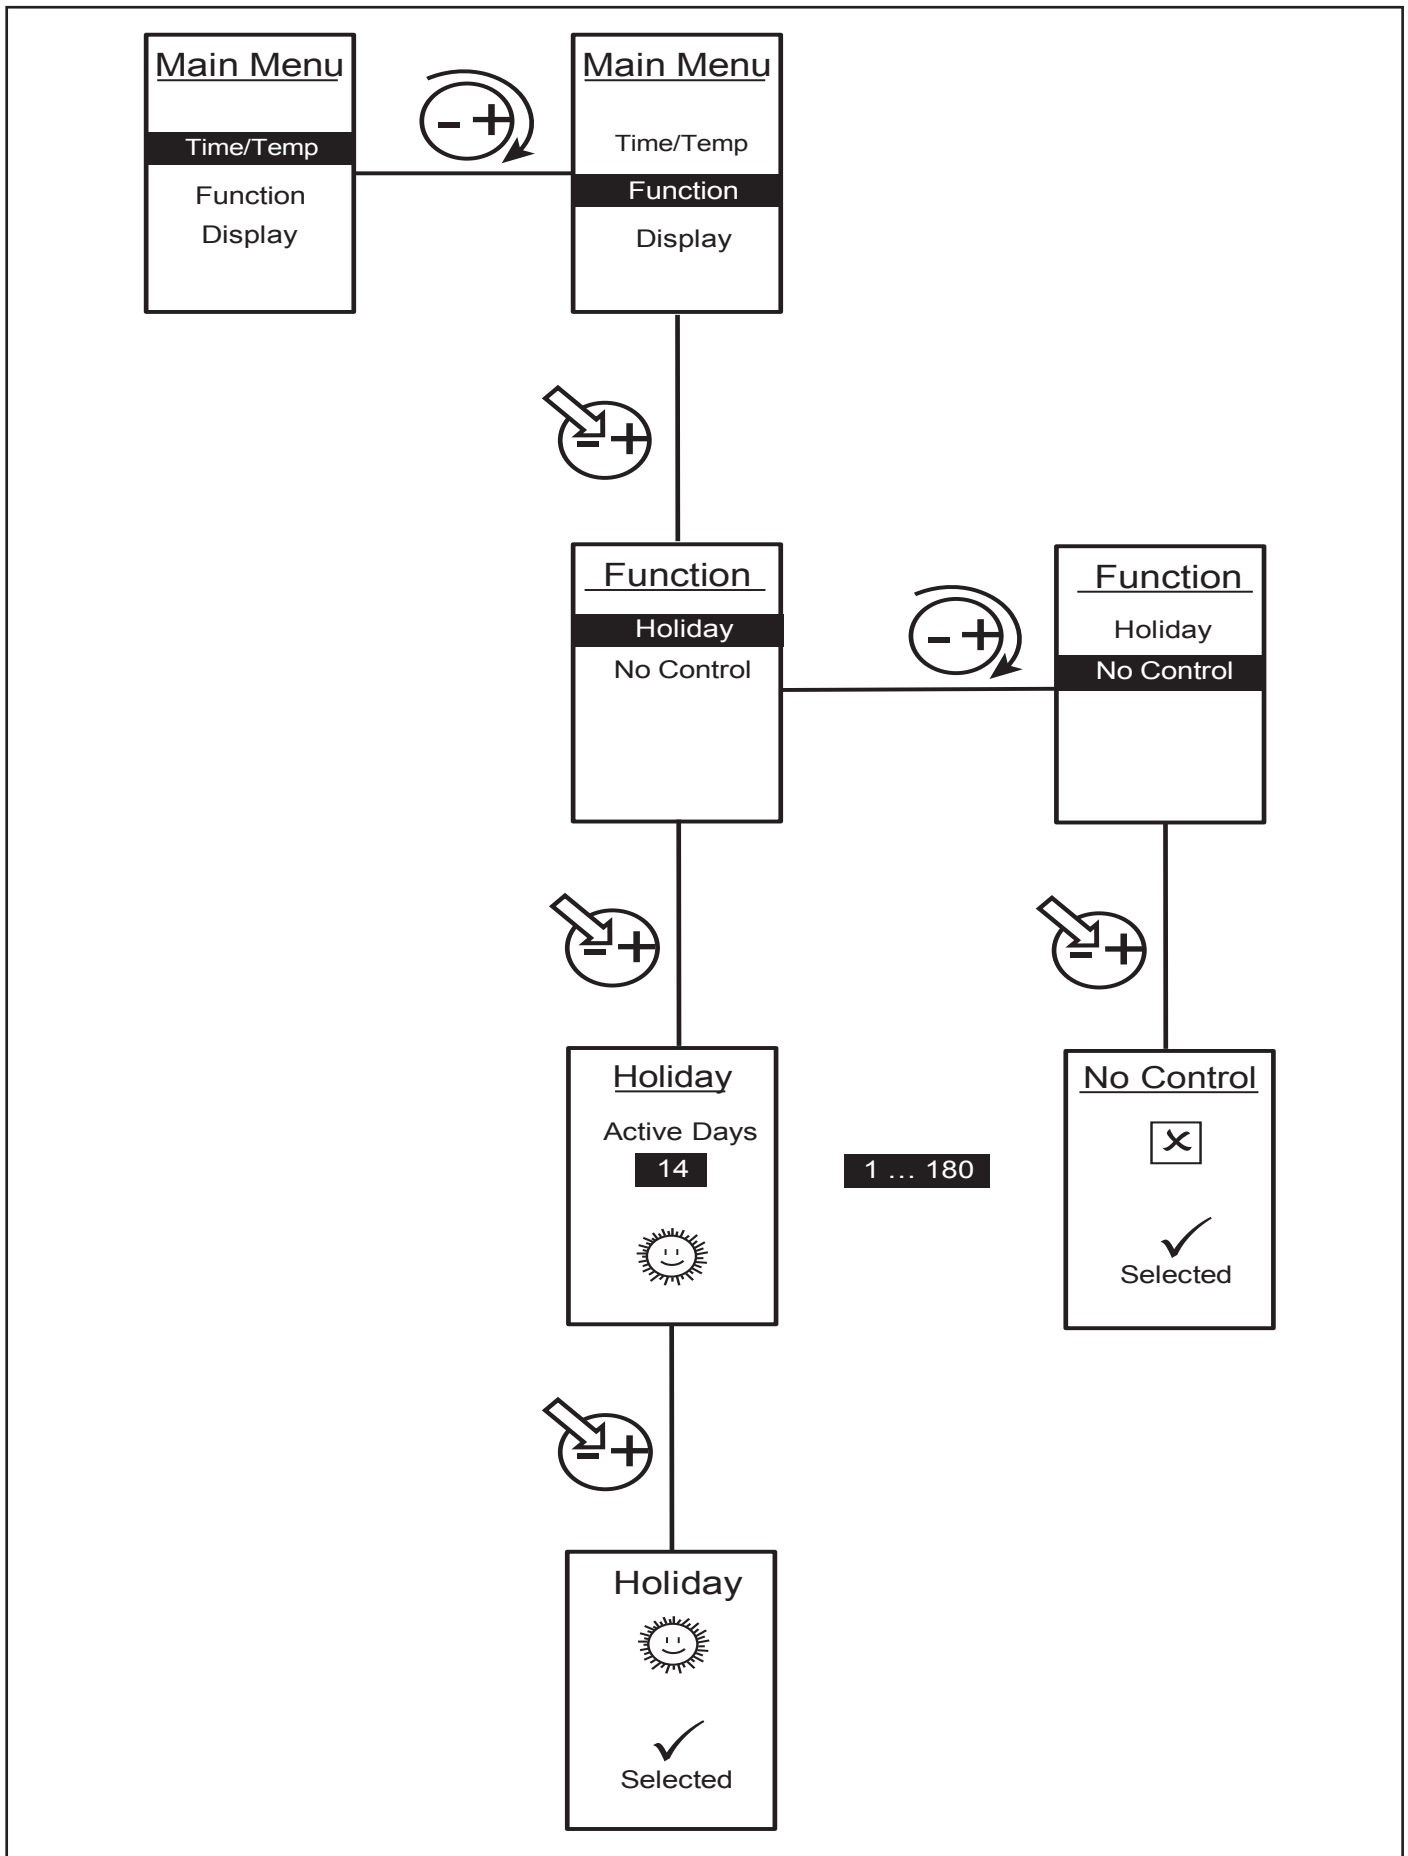

Figure 20: How to Set Functions
- setting of functions (see Figure 20)